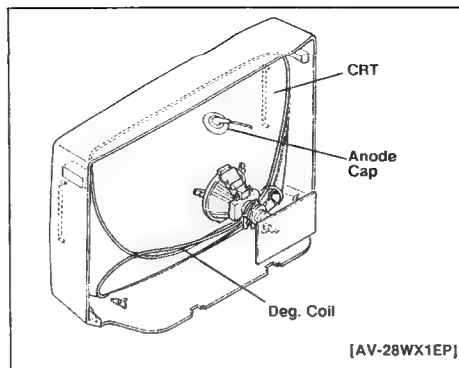

Fig. 4
- Take out the main chassis. Disengage the connectors of the anode cap, degaussing coil etc. (Fig.4) and remove the chassis completely.